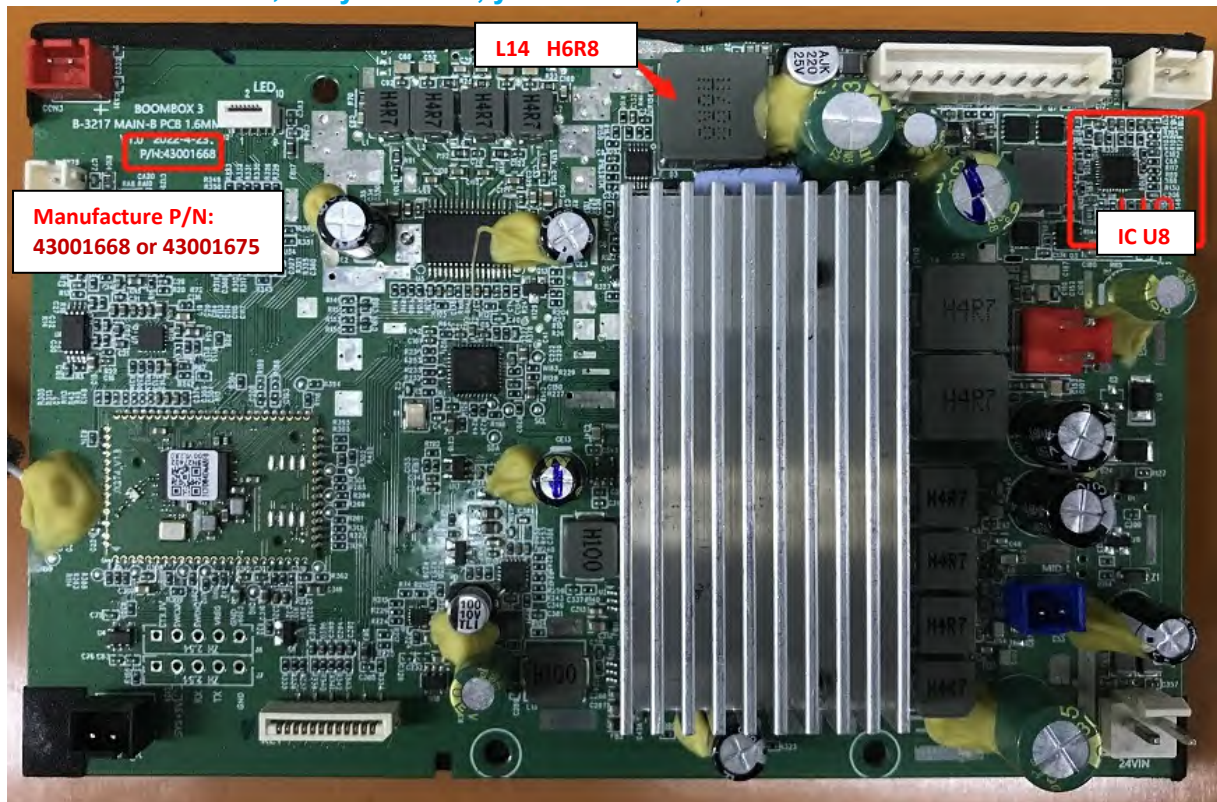

Fig. 3
---manufacture P/N on the PCBA: **43001668 or 43001675**, as shown in Fig. 3
---And component L14: **H6R8**, as shown in Fig. 3